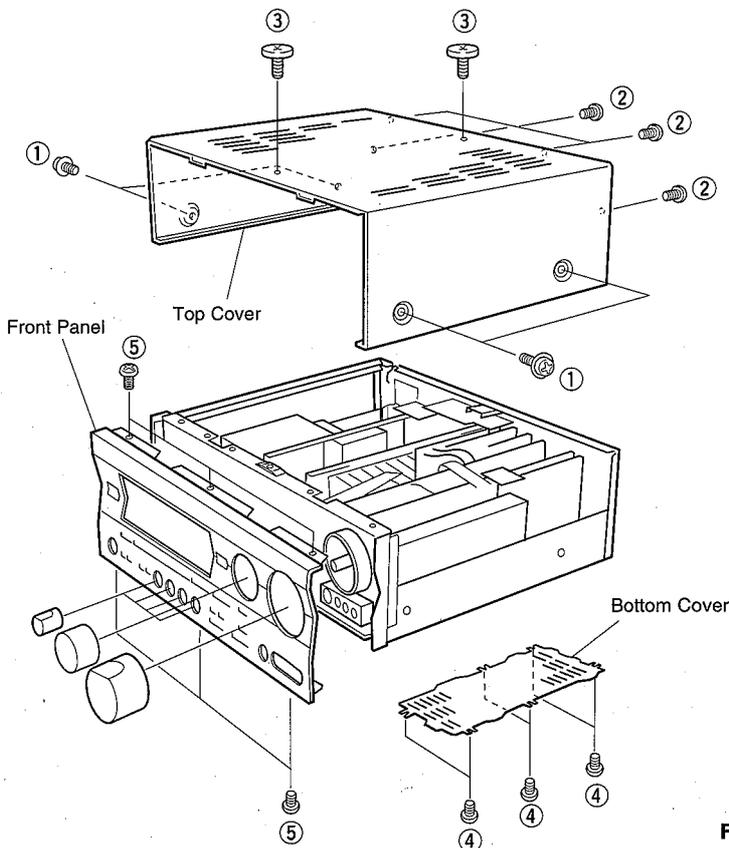

Fig. 1
a. Remove 4 screws (①), 4 screws (②) and 2 screws (③) in Fig. 1.
a. Remove 6 screws (④) in Fig. 1.
b. Remove 6 screws (⑤) in Fig. 1.